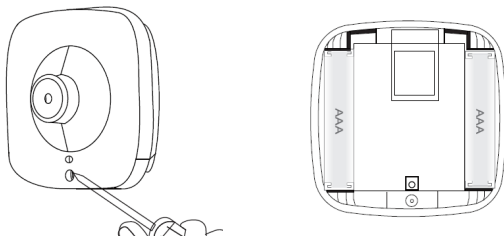

Fig. 2
- Using the included screwdriver, unscrew the back of the sensor, replace the batteries ensuring the correct polarity is observed, and re-fit the back of the sensor (see Fig. 2)